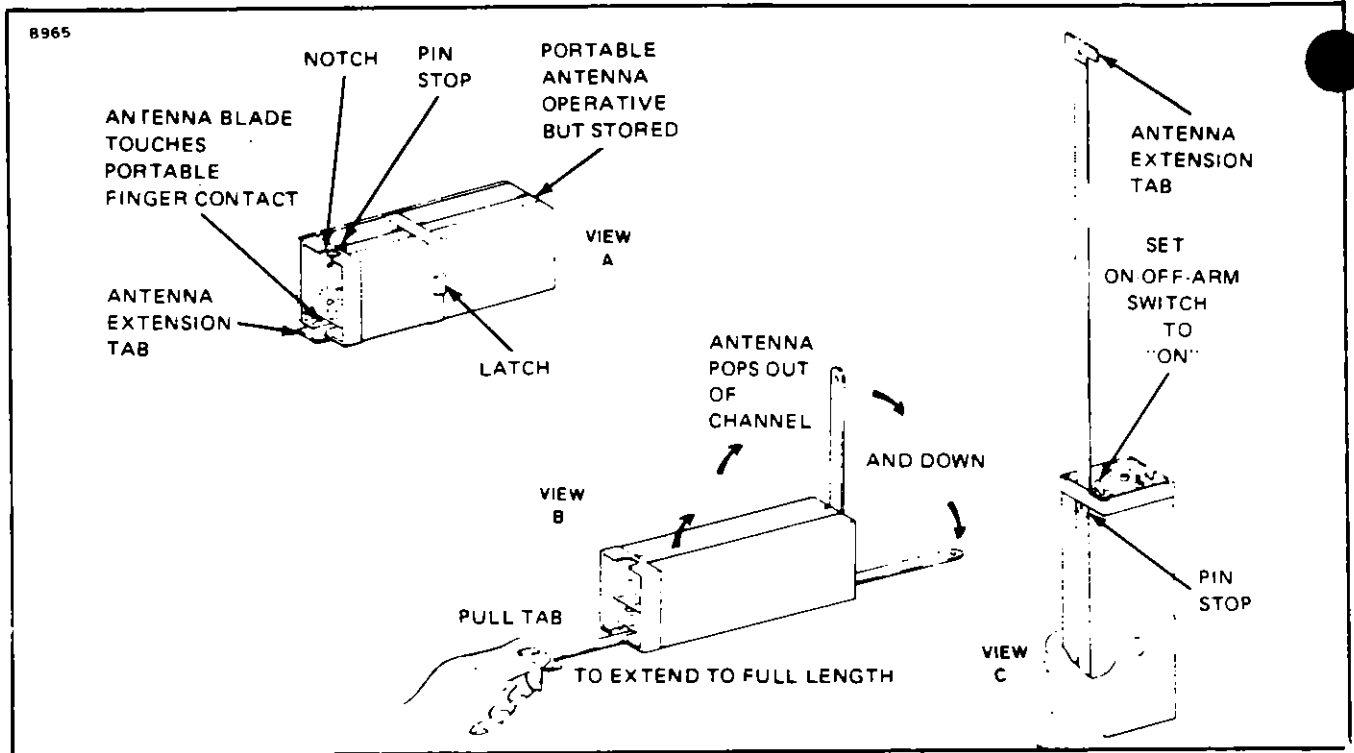

Figure 12-1. ELT Portable Folding Antenna (Narco)
- 12-4. BATTERY AND REMOVAL AND INSTALLATION (NARCO). (Refer to Figures 12-1 and 12-2.)
- l. Connect the antenna coaxial cable to the ELT and ensure that the contact separator is inserted between the antenna contact finger and the portable antenna. (Refer to Figure 12-1.)